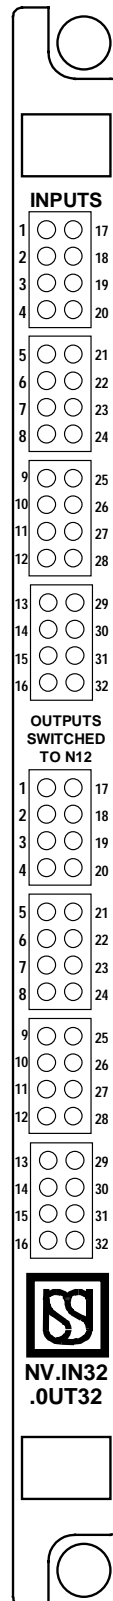
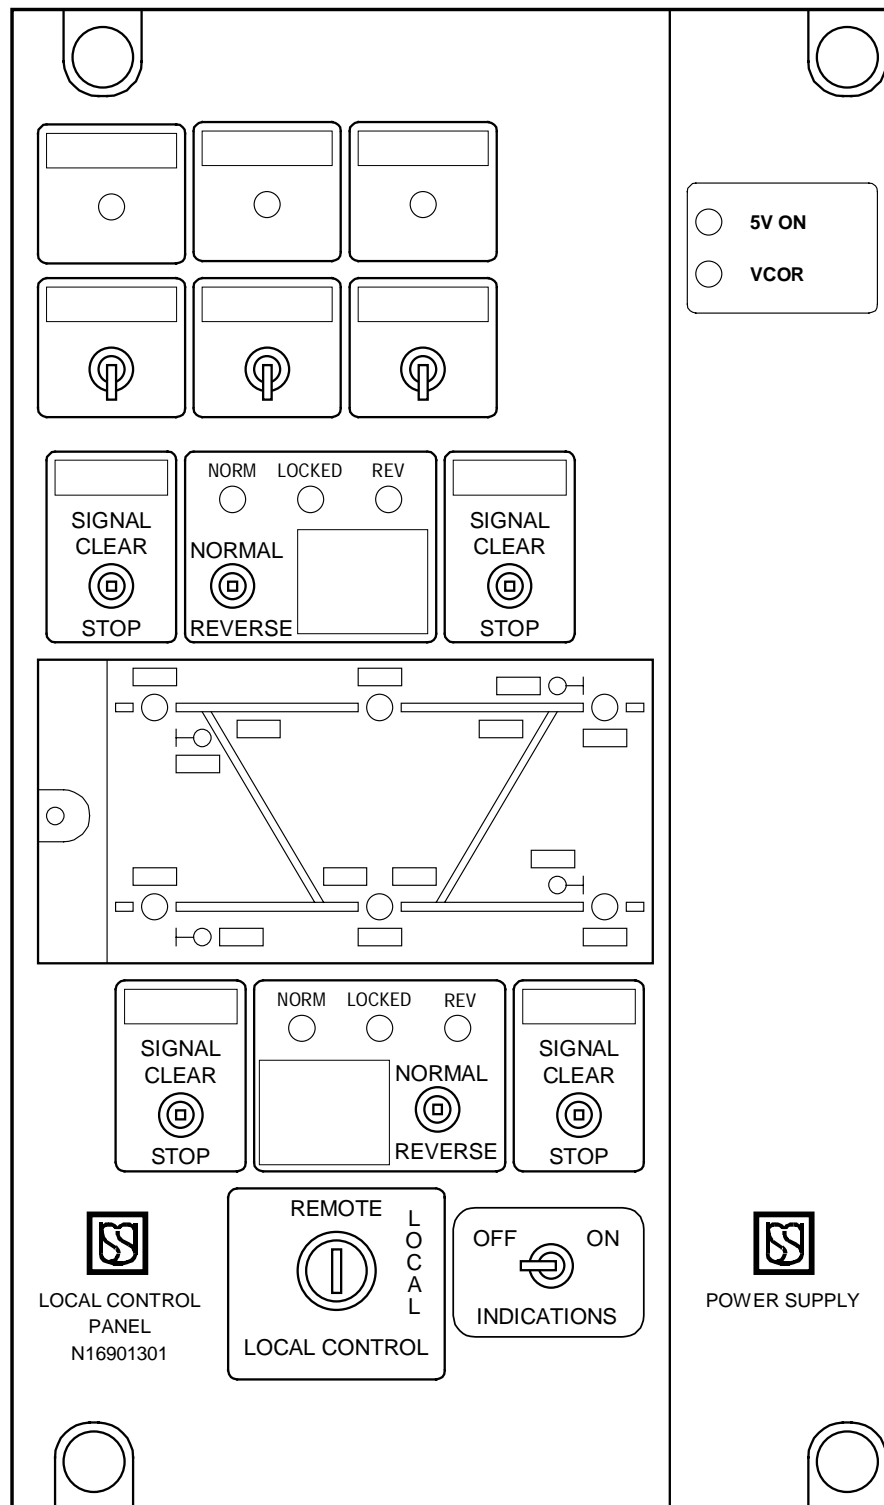

Figure 2-23A. Non-vital I/O PCB Front Panel Layout
Figure 2-24. Local Control Panel Layout (with Rear-Mounted Power Supply PCB)
**2.5.2.11 Non-Vital I/O Printed Circuit Boards (Figures 2-23A, B, and C, and Figure 2-24)**
The non-vital I/O printed circuit boards enable the Microlok II system to generate and monitor the status of non-vital discrete inputs and outputs. Examples of non-vital I/O include controlled outputs to light remote indicator lamps, and the I/O associated with the switches and indicators on the local control panel (if installed). Two versions of this board are provided. Part number N17000601 provides the necessary I/O interfaces between the Microlok II CPU and a local control panel (either an on-unit LCP or a remote unit). This board incorporates two separate sets of parallel I/O lines on separate front and rear edge connectors. The front 48-pin connector provides 16 inputs and 24 outputs for the LCP interface (Figure 2-24). The rear 48-pin (cardfile backplane) connector provides 16 inputs and 8 outputs for external circuits. The N17000601 board is installed behind the local control panel and has no visible front panel. I/O board part number N17061501 (Figure 2-23A) is used for external I/O circuits only, and provides 32 inputs and 32 outputs through its rear 96-pin connector.
### **2.5.2.12 Local Control Panel (Figure 2-24)**